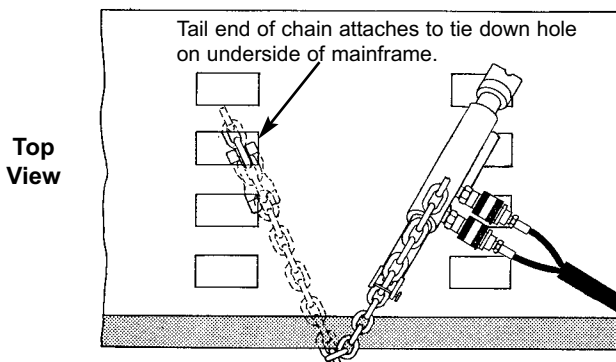

Figure 11
1. Position auxiliary ram assembly at desired angle securing v-base attachment in corner of tie down hole. (See Figure 11.)
**IMPORTANT:** Tail end of chain must be secured at opposite angle to auxiliary ram. (See also Figure 11.)